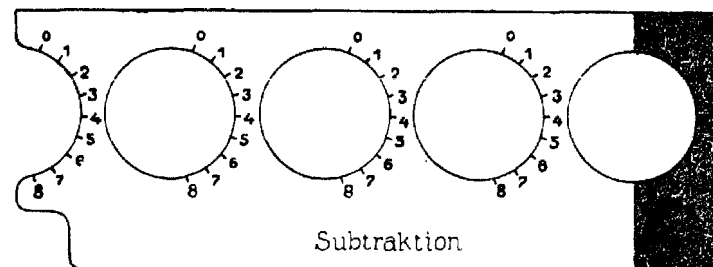

Figure 237
**Subtraction:** For this operation, it is necessary to use a plate placed on the machine (see figure 237) that converts the addition digit disks to subtraction disks (these are arranged in the opposite order). The outermost position on the right has a red panel, and here the complementary digits are numbered from 1 to 9. For the other positions, however, the complementary digits are numbered from 0 to 9. Before subtracting there is, as a rule, already a number (the minuend) registered on the machine. The subtraction plate is placed on the machine in such a way that the red panel is put into the digit position where the subtraction begins. The number to be subtracted is then entered just as in addition, only beginning from the rightmost digit instead of the leftmost. All unused digits to the left of the number being entered are pulled down with